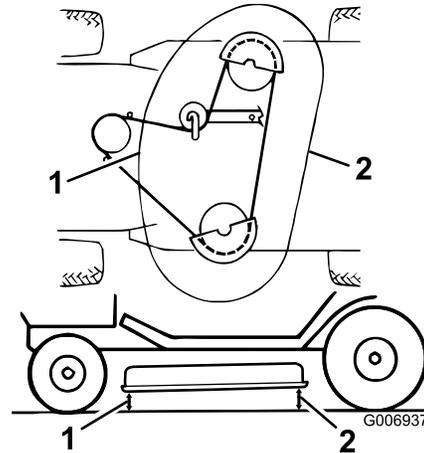

Figure 62
- Check the front-to-rear slope by measuring between the bottom of the cutter deck (front center and rear center) and the flat surface (Figure 62). If the front is not within a range of 1/8 to 3/8 inch (3 to 10 mm) lower than the rear, adjust it.